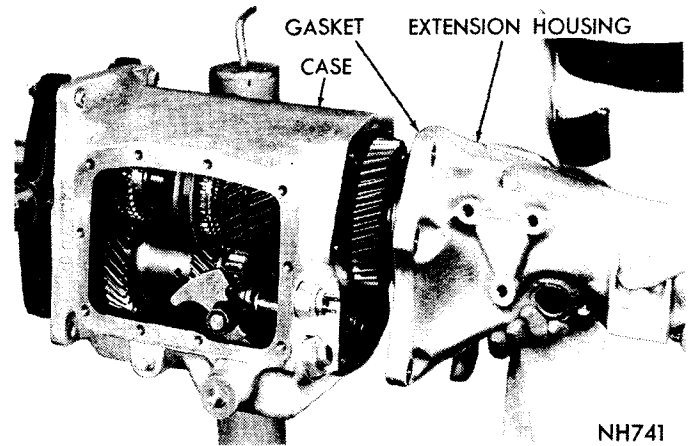

Fig. 14—Removing or Installing Extension Housing and Mainshaft Assembly
(10) Slide third and overdrive (O/D) synchronizer sleeve slightly forward, slide reverse idler gear to center of its shaft, then using a soft faced hammer, tap on extension housing (in a rearward direction). Slide housing and mainshaft assembly out and away from the case (Fig. 14).